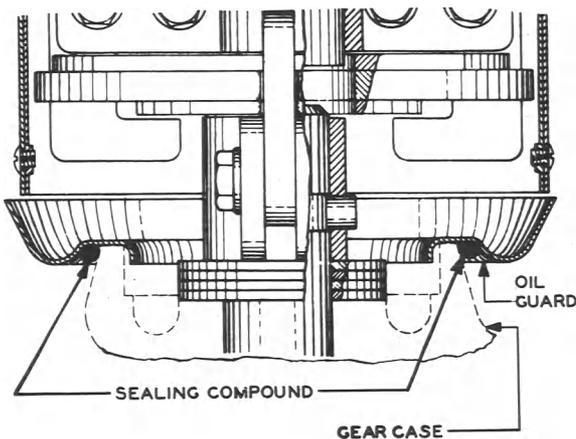

Fig. 13 - Sealing Oil Guard and Gear Case
(14) Rotate the guard several times against the gear case to insure the sealing compound being distributed evenly all around the surfaces to be sealed. Then position the guard on the top of the gear case to insure that the oil guard does not touch the lugs of the eccentric coupling in any position and that the clearance between the oil guard and the eccentric coupling guard is satisfactory. Hold the guard in this position until the sealing compound has set.
(15) With the oil guard satisfactorily positioned, build up a bead of sealing compound around the sealed joint by additional applications of the sealing compound as shown in Fig. 13. Take care in doing this not to disturb the position of the oil guard.